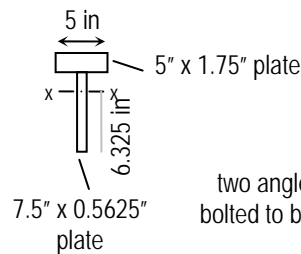

Figure 1c
- The cross section geometry of the beam is shown in Figure 1c.